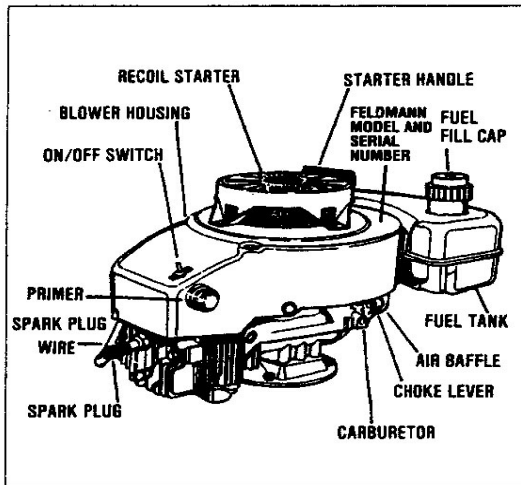

Figure 1
2. Move ON/OFF switch (see Figure 1) to ON position.
3. Push PRIMER (see Figure 1) five (5) times. Wait about 2 seconds between each push.
5. Grasp STARTER HANDLE (see Figure 1) and pull slowly until you feel the rewind engage, then give the handle a brisk, strong pull. Do not wrap the starter rope around your hand. Do not let the starter rope snap back, rather guide it slowly into the housing to allow proper rewind. Failure to follow these instructions may result in personal injury and damage to the engine.